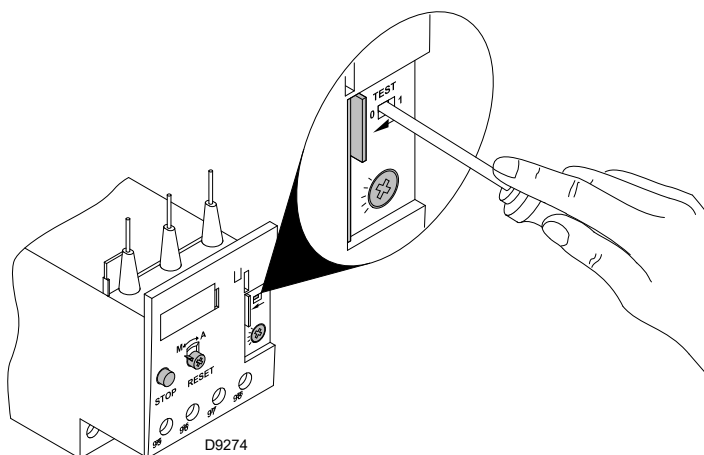

Fig. 29
- To test the overload relay, insert a screwdriver in the window **"TEST"** (Fig. 29) and move it in the sense of the arrow (towards right).